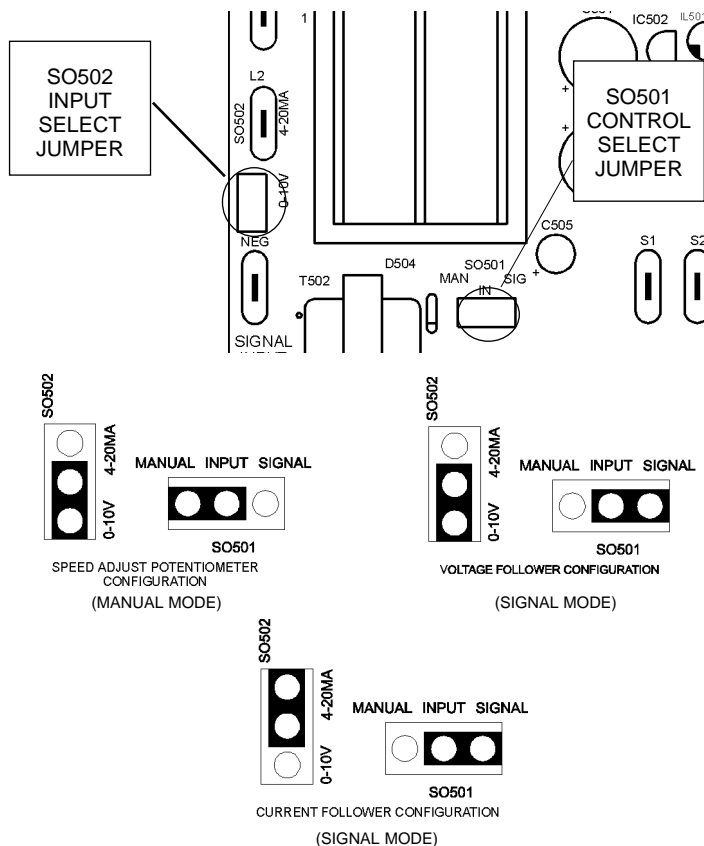

Figure 10. PCM2x000C Jumper Locations and Settings
- Ensure that all jumpers are properly set prior to applying power. See Figure 9 (page 18) for PCM2x000A jumper location and settings. See Figure 10 (page 19) for PCM2x000C jumper locations and settings.